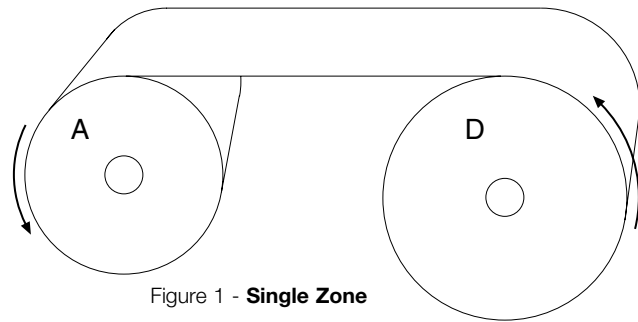

Figure 1 - **Single Zone**
Simple machines, such as rewinders or inspection machines, may have only one zone (see Fig. 1). The primary goal here is to control tension so that the rewind package is accurately wound. Typically, the winder (A) would be a simple line speed motor drive, with tension controlled by a brake system at the unwind (D). The method of brake control (i.e.: open or closed loop) would be determined by the accuracy demands of the application. For simple diameter compensation, an ultrasonic sensor measuring the diameter of the roll can produce satisfactory results. Greater accuracy may require closed loop feedback, such as from a dancer or load cell.